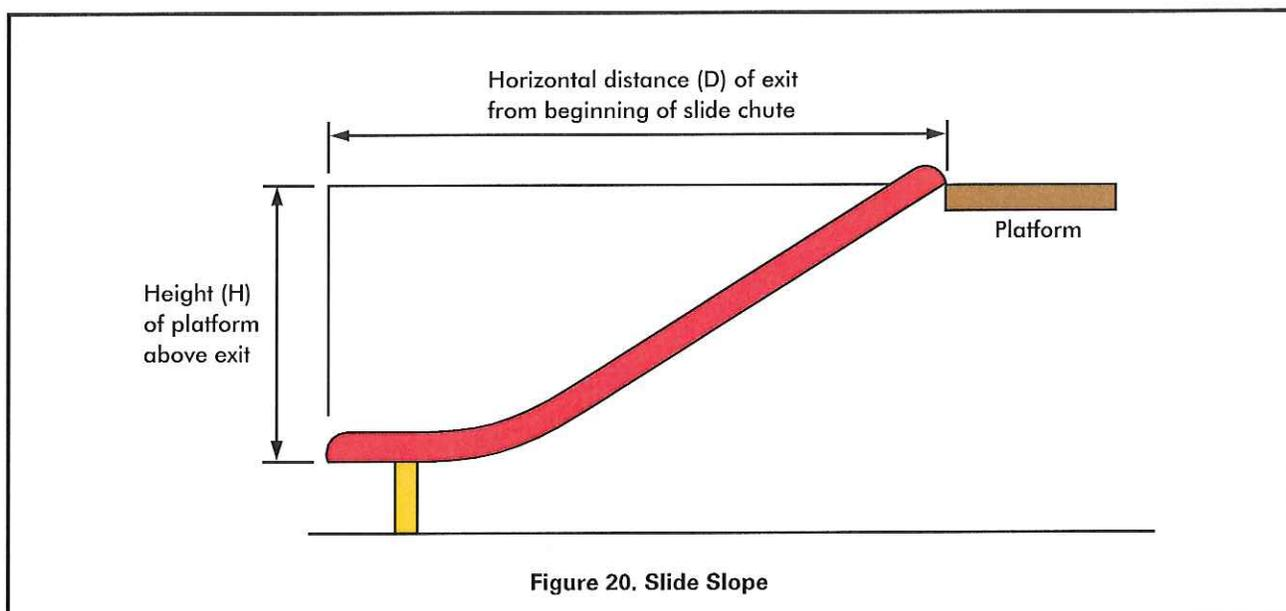

Figure 20. Slide Slope
- The average incline of a slide chute should be no more than  $24^\circ$  (that is, the height to horizontal length ratio shown in Figure 20 does not exceed 0.445).
- The average incline of a slide chute should be no more than  $30^\circ$  (that is, the height to horizontal length ratio shown in Figure 20 does not exceed 0.577).